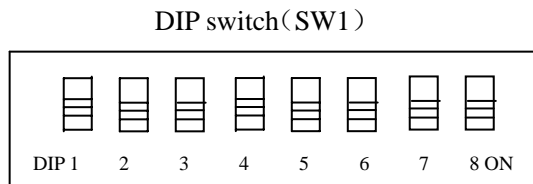

Fig. 3.2.2
- ① PSU
- ② Batteries
- ③ Control board
- ④ **Control Enable** lock
- ⑤ **Evacuate** lock
- ⑥ DIP switch (See Fig.3.2.2)
- ⑦ Display board